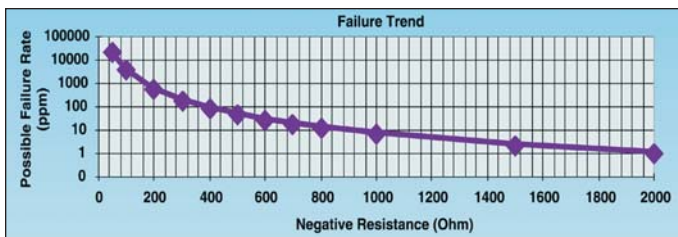

Figure 5 · Oscillator failure rate data.
- Insufficient negative resistance (the oscillator circuit resistance must exceed the crystal resistance over all conditions. See Figure 5)